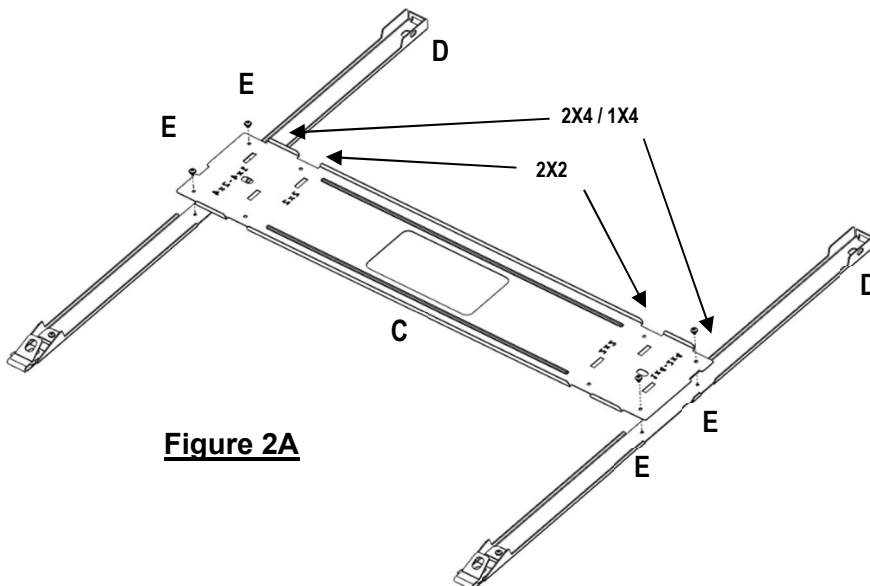

Figure 2A
- Place hanger side brackets with the flat side down. Use locating tabs to orient side brackets. Hanger center brackets will only sit flat on hanger side brackets in the correct orientation, see Figure 2A.